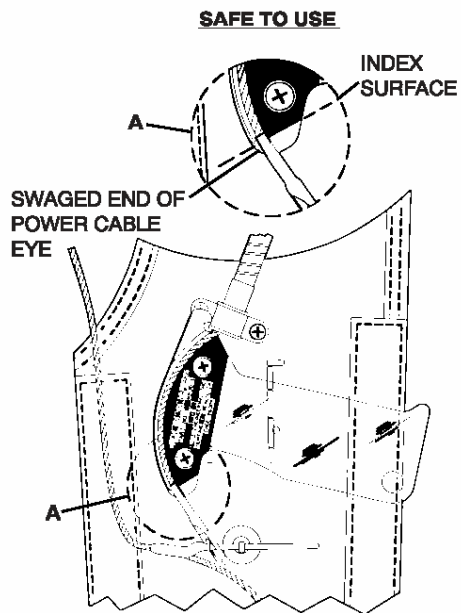

Figure 5. Power Cable Assembly, Safe.
- (1) Refer to Figure 5. If the power cable assembly is correctly routed and installed, and has not been damaged, the end of the eye should not extend past the index surface.